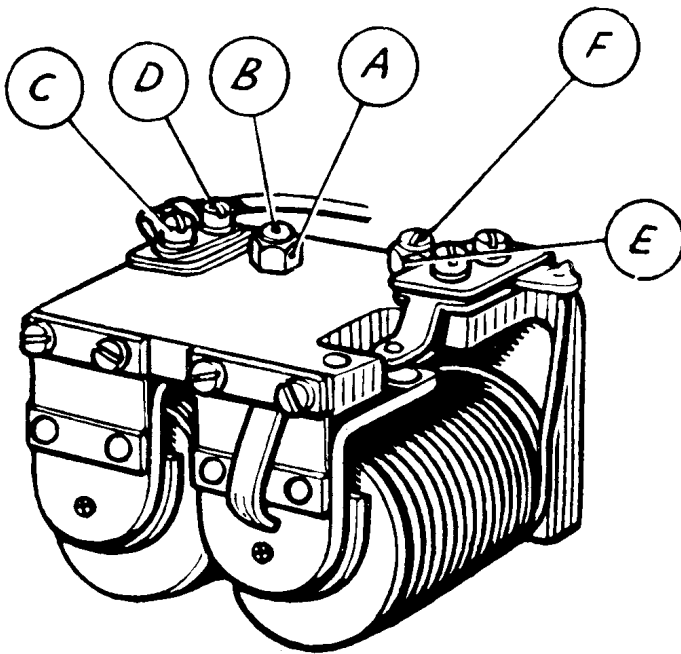

Fig. N.15
Shut off the engine, remove the control box cover, and release the locknut (A) (Fig. N.15) holding the adjusting screw (B). The screw turns in a clockwise direction to raise the setting or in an anti-clockwise direction to lower the setting. Turn the adjusting screw a fraction of a turn in the required direction and then tighten the locknut.
To render the regulator contacts accessible for cleaning slacken the screws securing the plate carrying the fixed contact. It will be necessary to slacken the upper screw (C) (Fig. N.15) a little more than the lower one (D) so that the contact plate can be swung outwards. Clean the contacts by means of fine carborundum stone or fine emery-cloth. Carefully wipe away all traces of dirt or other foreign matter. Finally, tighten the securing screws.
If the cut-out has become out of adjustment and operates at a voltage outside these limits it must be reset. To make the adjustment slacken the locknut (E) (Fig. N.15) and turn the adjusting screw (F) a fraction of a turn in a clockwise direction to raise the operating